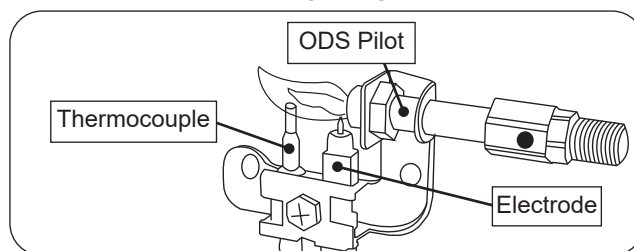

Fig. 24-2 ODS Pilot assembly detail
3. Place the ON/OFF switch in the **ON (I)** position.
4. Locate the pilot assembly toward the center of the unit, near the main burner (see Fig. 24-2).